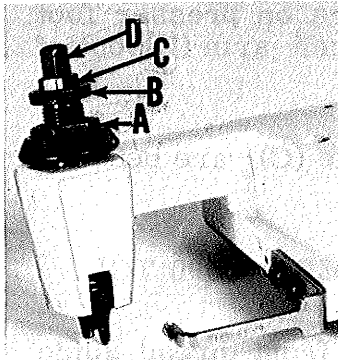

Fig. 2
Sufficient presser foot pressure to feed work uniformly should be maintained. Should it be necessary to increase or decrease amount of pressure on presser foot, loosen lock nut (A, Fig. 2) and turn adjusting screw (B). Adjusting screw has a right hand thread, so tightening increases pressure, loosening decreases pressure. When pressure adjusting screw (B) has been properly set, tighten lock nut (A). With presser foot resting on throat plate, position locking nut (C) so that its under surface is approximately  $1/32$  to  $1/16$  inch (.79 to 1.59 mm) from the top surface of adjusting screw (B). Set cap (D) against locking nut (C).